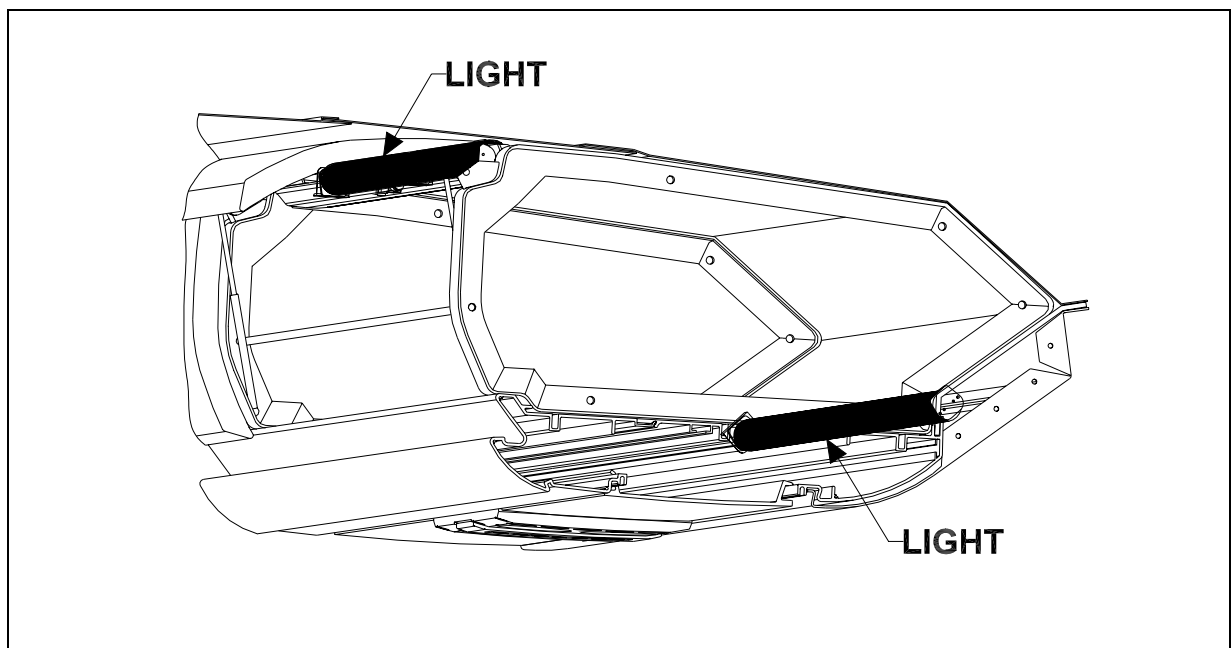

FIGURE 47: PARCEL RACK
4. Lift the hinged cover and replace the two retaining screws (Fig. 47).